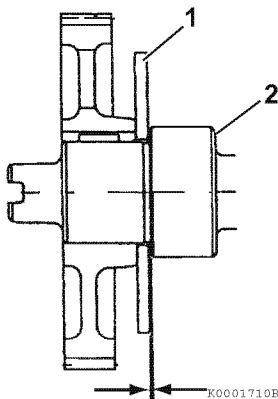

Figure 6-48
- **Method B:** Use a feeler gauge to measure the clearance between the thrust plate (1, **Figure 6-48**) and front camshaft bearing (2, **Figure 6-48**). See *Thrust Bearing* on page 6-7 for the service limit.